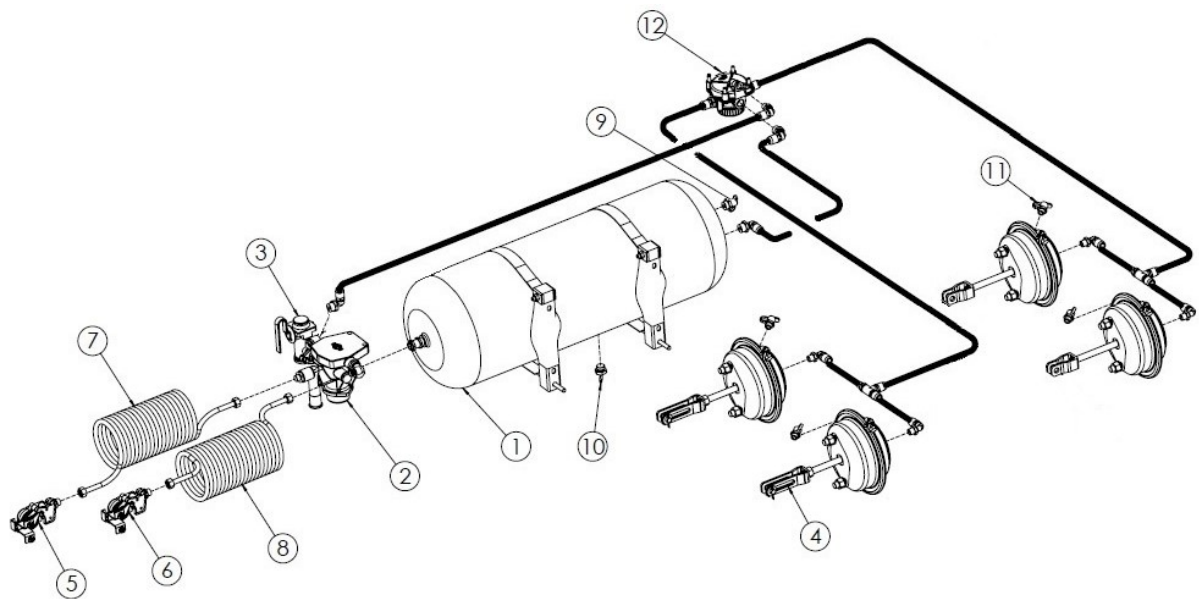

Figure 9 The 2-Line pneumatic braking system
- two-line pneumatic system (Figure 9)
The spreader is equipped with a two-line pneumatic system, with manual brake-force control as standard (Figure 9).